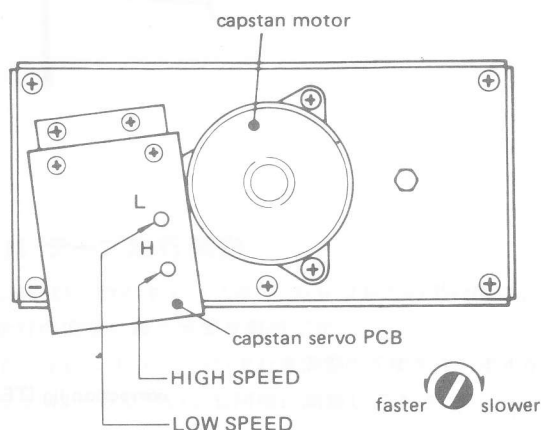

Fig. 2-17 FWD/REV play speed adjustment points
3. Play the tape. Adjust HIGH SPEED control (see Fig. 2-17) for a reading of 3,000Hz $\pm$ 5Hz.
1. 調整箇所 図2-17参照